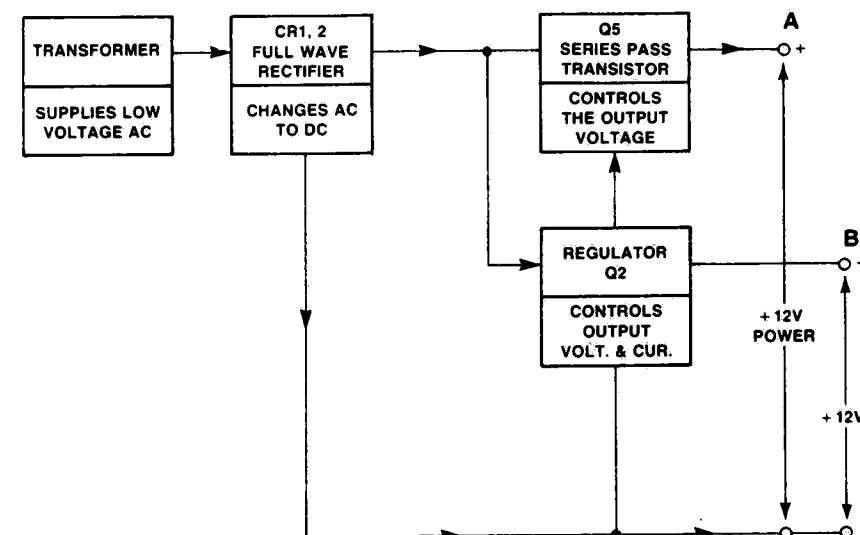

Figure 3-10. PRINTCON 12-VOLT POWER SUPPLY.
+12 VDC at 0.1 amp, voltage regulated (Figure 3-10).
+12 VDC at 1.5 amp, voltage regulated (Figure 3-10).
2. The +12 VDC regulated output is supplied by the +18 VDC unregulated circuit. The unregulated +18 VDC supplies the integrated circuit regulator Q2 which regulates the output voltage (Figure 3-10, Point B).
3. The +12 VDC power output is also supplied by the unregulated +18 VDC power supply. Series pass transistor Q5 uses the +12 VDC regulated supply as a reference to regulate the +12 VDC power output (Figure 3-10, Point A).